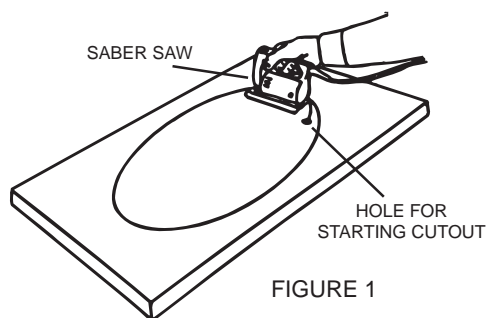

FIGURE 1
2. Drill a starter hole in the line you have drawn that is large enough to take the blade of a key hole or saber saw. Carefully saw along the line. See figure 1.